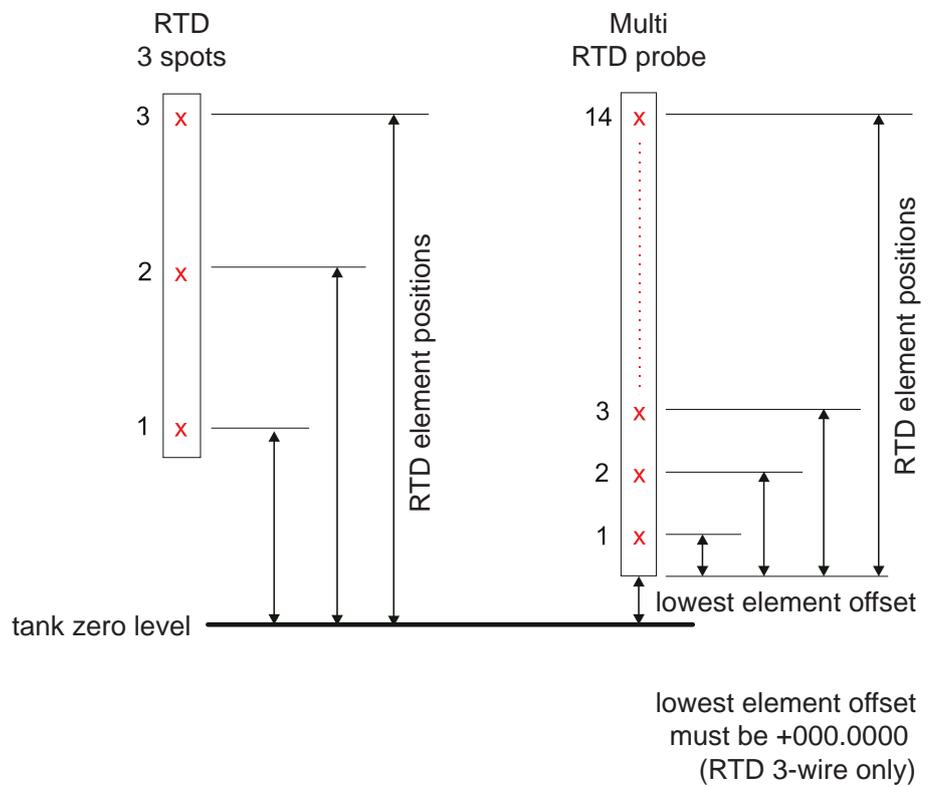
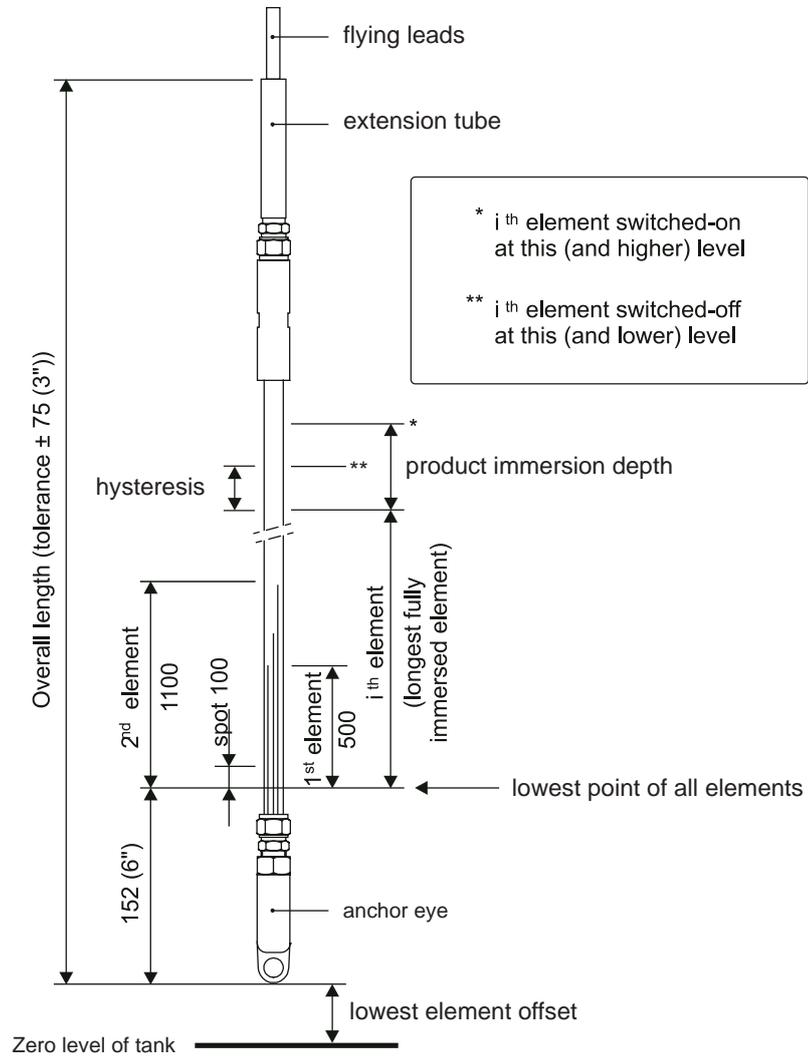

FIGURE 6-23
FIGURE 6-24
See FIGURE 6-23 and FIGURE 6-24.
■ RTD 3 spots (see FIGURE 6-23 *left side*)
■ Multi RTD probe (see FIGURE 6-23 *right side*)
■ MRT (see FIGURE 6-24)